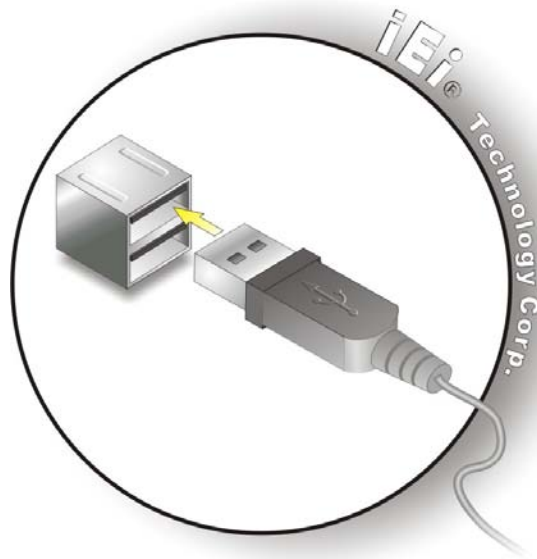

Figure 3-15: USB Device Connection
- Step 2:** Align the connectors. Align the USB device connector with one of the connectors on the TANK-600. See **Figure 3-15**.